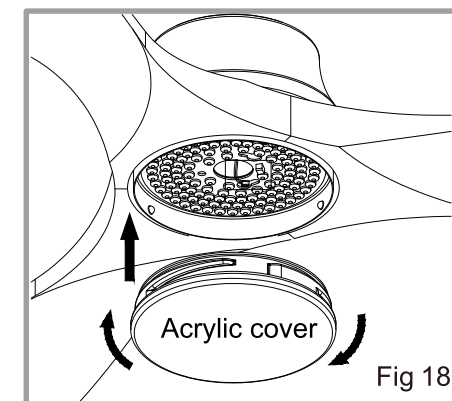

Fig 18
- 3) Rotate the light cover until fixed. (Fig 18)